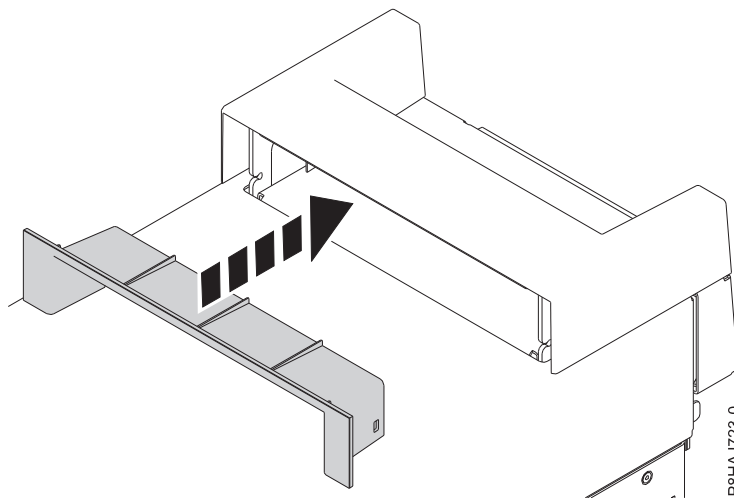

Figure 107. Inserting the piece within the handle cover on an 8286-41A stand-alone system
2. Insert the piece within the handle cover by pushing it firmly into the handle cover as shown in Figure 107.